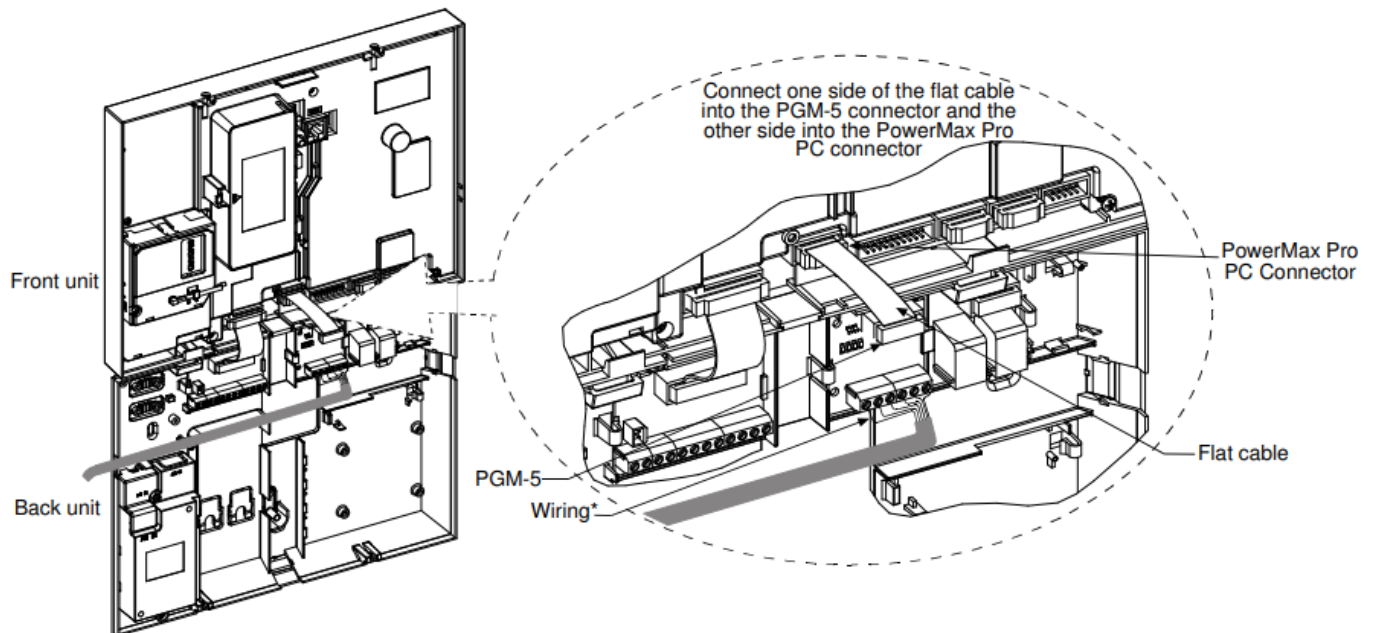

Figure 4a – PGM-5 Mounting and Wiring in PowerMax Pro Control Panel
- In the PowerMax Pro, PowerMaxComplete, PowerMaster-30 G2 and PowerMaster-33 G2 control panels, press the PGM-5 module into the marked location (see Figures 4a, 4b and 4e) until a click is heard.